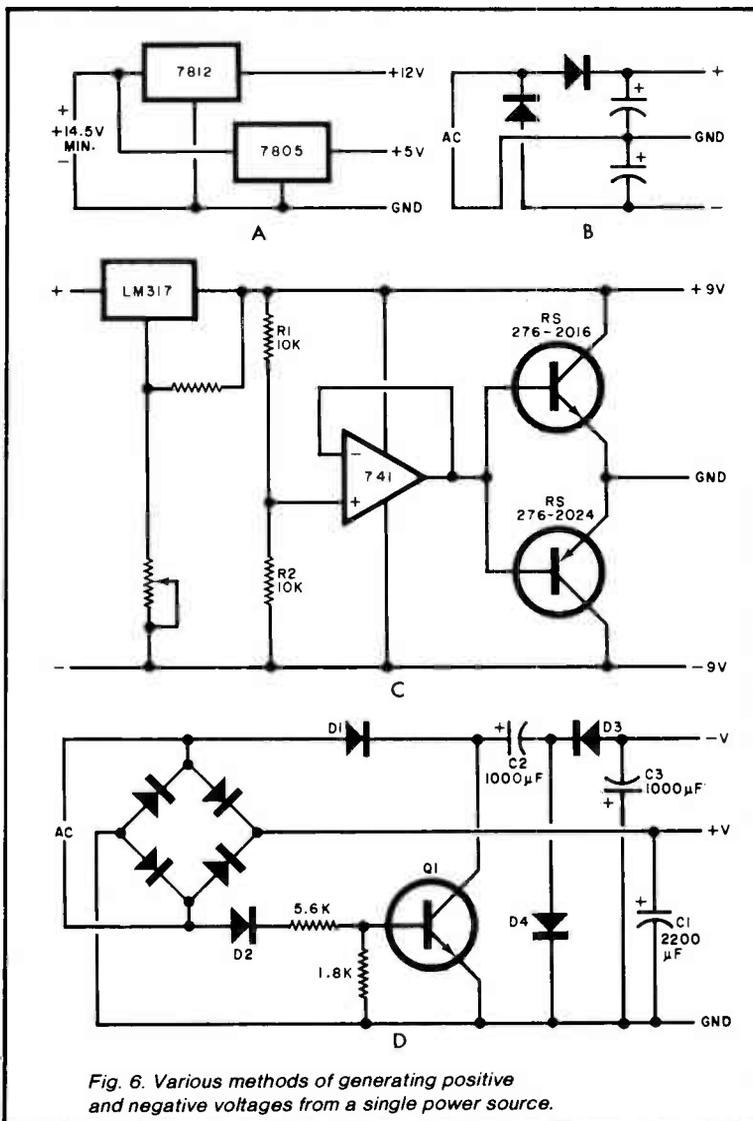

Fig. 6. Various methods of generating positive and negative voltages from a single power source.
**Multi Voltages.** Circuits requiring more than one dc voltage are shown in Fig. 6. For a dc adapter, the simplest approach is Fig. 6A. This circuit delivers 12 and 5 volts, both regulated. An ac adapter can use the circuit shown in Fig. 6B to deliver both a positive and negative voltage. If desired, a 7905 can be used in the negative line to deliver regulated -5 V, while a 7805 in the positive line delivers regulated +5 V. The circuit in Fig. 6C can deliver both positive and negative voltages if the output of the dc adapter is about two V higher than the sum of the two output voltages. The LM317 is set to the sum of the two voltages, while the 741 op amp forces the two transistors to sink current from both loads. This creates a common line that is treated as the circuit ground. This circuit can be used to create positive and negative voltages of equal or unequal magnitude, depending on the ratio of  $R1$  to  $R2$ . Both voltages will be as well regulated as the output from the regulator.